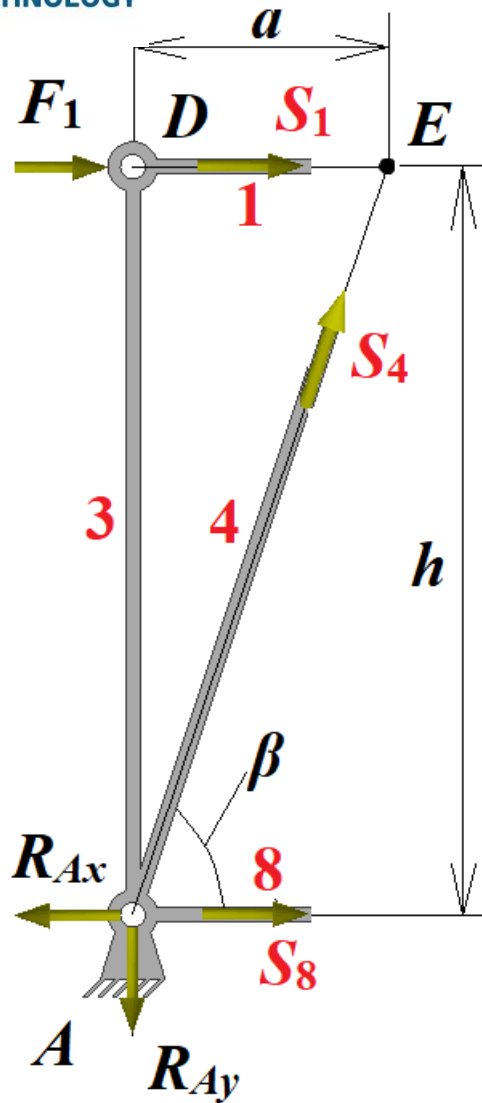

Fig. 4 – Section #1
4. Use method of sections to check the results (Figs. 4, 5)